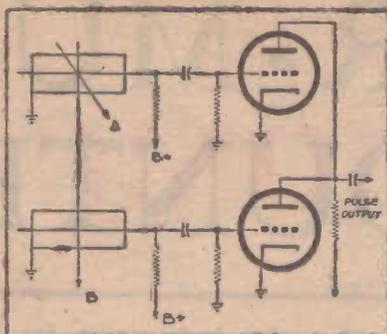
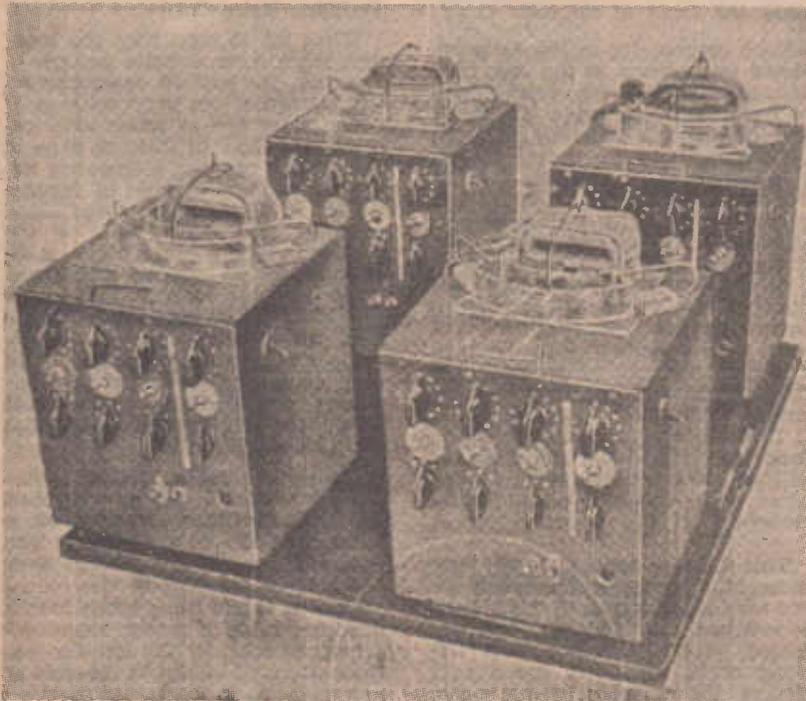
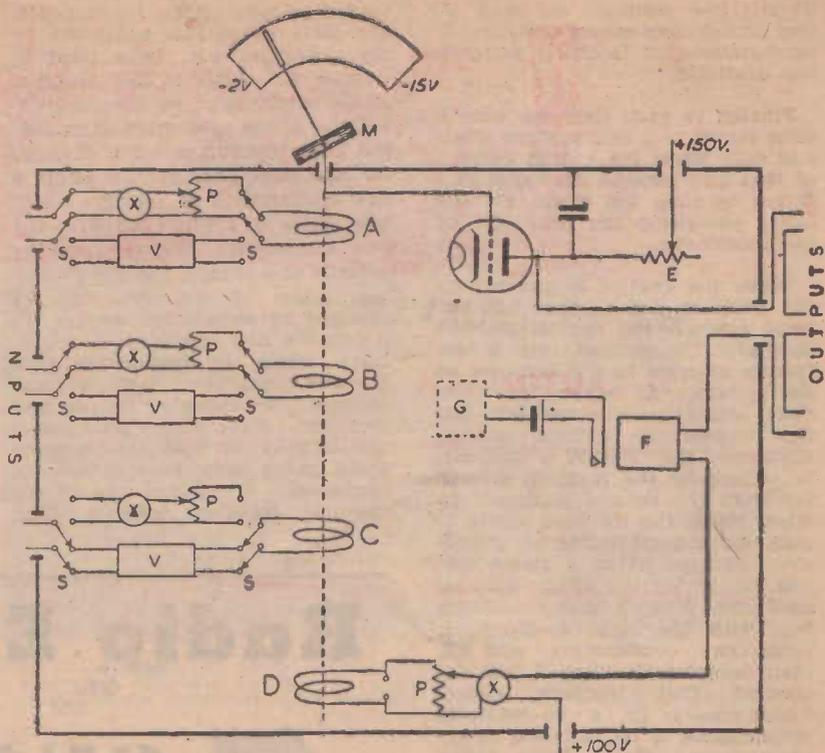

Fig. 2. Arrangement for coincidence counting.
Fig. 1. The Homeostat, with its four units, each one of which reacts on all the others.
Fig. 3. Diagram of one unit, the others being replicas. The inputs come from and the outputs go to the other three units.
A rather simple yet ingenious arrangement of counters enables the direction of travel of an ionising particle to be detected. The arrangement is called a "coincidence counter", and is illustrated in Fig. 2. It will be noted that two (or more) counters are arranged to intercept the ionising particles or rays. The counters are connected to the grids of individual vacuum tubes whose plates are connected to a common load resistor  $RL$ .
Fig. 2. Quadruple coil ABCD encircles magnet M which is suspended by the needle pivot. The suspending wire extends forward on its end into the water in the semi-circular plastic trough which has electrodes at each end. Potential for grid is taken from the pivot socket.
The homeostat consists of units, four of which are shown in Fig. 1. Each carries on top a suspended magnet, shown in Fig. 2 and the behavior of these four magnets provides the focus of interest.
Each magnet (M in Fig. 3) is affected by currents in the four coils around it, the currents coming partly from the other units (A, B, C) and partly as a self-feedback (D). (The apparently single coil of Fig. 2 is composed of the four coils of Fig. 3). In front of each magnet is a trough of water with electrodes at each end at -2v and -15v respectively. The magnet is suspended on a needle pivot by a wire sling which dips into the water and picks up a potential which depends at each moment on the position of the magnet. The potential goes to the grid of a triode and thus controls the d.c. output of the unit. (The resistor E is first adjusted so that when the magnet is central the unit has zero output). This output goes to the other units in series where it becomes one of their inputs.
These actions and reactions can be modified by various constant settings. Thus, the current form, say, unit 4 to unit 2, can be controlled as to its polarity of entry into the coil by X (Fig. 3). In addition, the potentiometer P decides what fraction of the input current actually goes through the coil. These controls can be hand set by the upper two rows on the front panels.